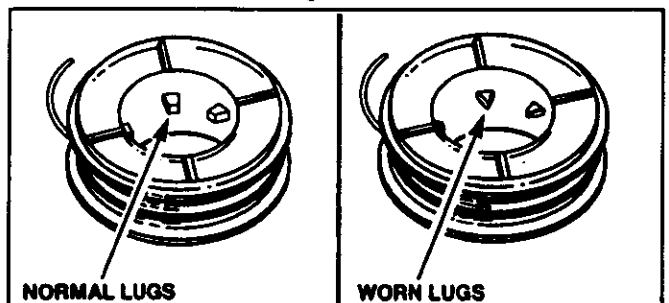

Figure 22
- Clean dirt and debris from all parts. Replace the spool when the square corners on the lugs are rounded off, reduced in size, or broken off. Figure 22.